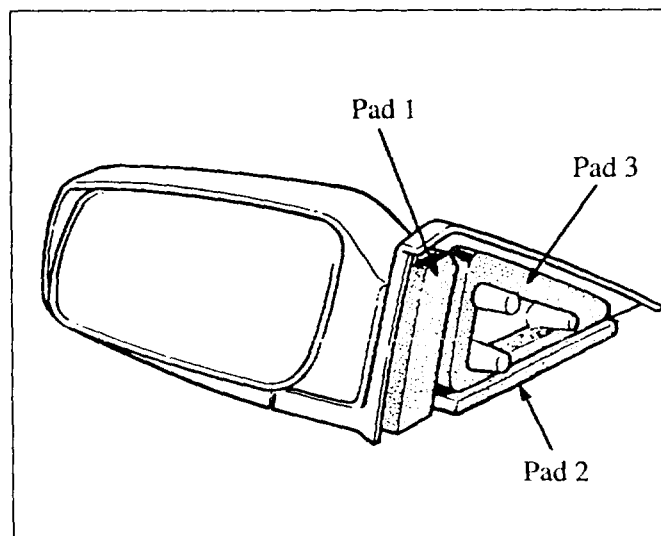

Figure 1: Door Mirror
3. Install Pad 1 on the side of the base. **Figure 1.**
4. Install Pad 2 on lower side of base. **Figure 1.**
5. Install Pad 3 (triangular pad) as shown. **Figure 1.**